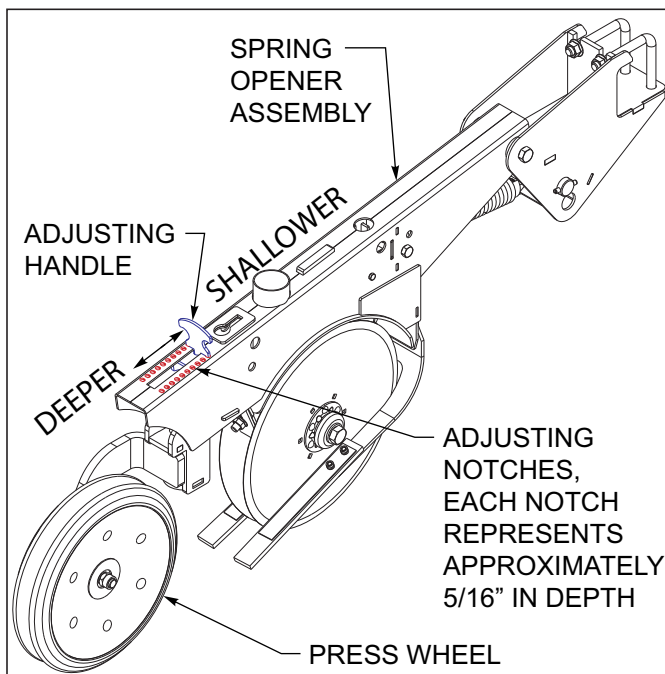

Figure 4-39: Press Wheel Adjustment
1. The seeding depth of each individual opener is controlled by the press wheel depth adjustment *See Figure 4-39* To change the depth of each press wheel, raise the openers so there is not any weight on the press wheel. Pull up on the adjusting handle and slide the depth stop forward or rearward to obtain the desired seeding depth. Each notch represents approximately 5/16" in depth. Slide the handle forward for shallower seed placement, and rearward for deeper seed placement.